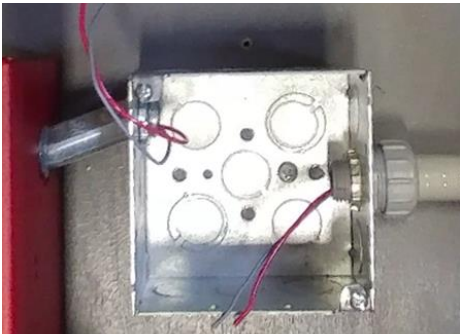

Figure 13.6
8. See **Figure 13.6** Run **14 AWG Solid** wires from additional Signal Horn, through raceway and into factory installed Signal Horn back box. **NOTE:** UNITED Fire Systems recommends using **RED**, and **GRAY** or **BLACK** wires for consistency and polarity identification.